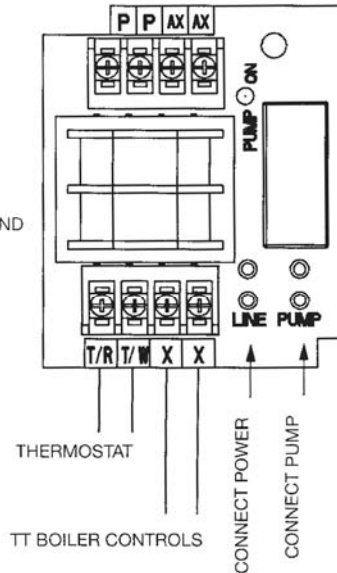

Figure 2: AZ-1 Wiring Diagram
8. Run the thermostat wires through the grommet in the plastic base and connect to the appropriate TR/TW terminals. Next, run the 24 volt boiler control wires through the grommet in the plastic base and connect to the XX terminals (see figure 2). Do not use the holes in the metal conduit box for 24 volt control wiring. The holes in the metal conduit box are for power wiring only.